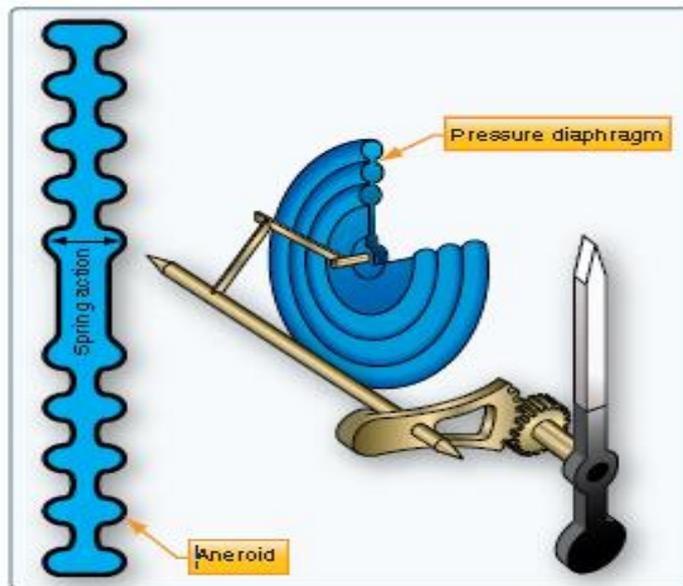

Figure 10-11. A diaphragm used for measuring pressure. An evacuated sealed diaphragm is called an aneroid.
- Pointer registers the movement against the scale on the instrument face. [*Figure 10-11*]